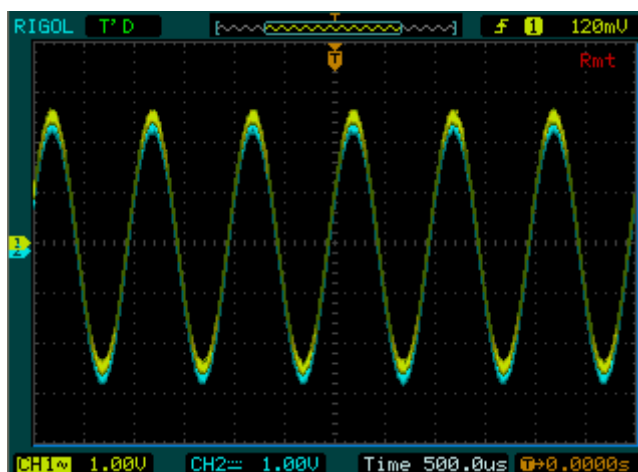
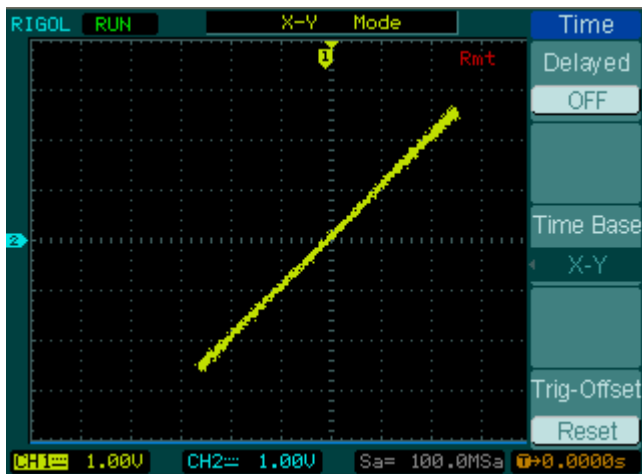

Figure 3-14
Figure 3-15
3. Press **Aligpha** in the above figure, adjust the Oscilloscope, using the Y-T and X-Y (Lissajous Figure) modes to view the waveform output. See Figure 3-14 and Figure 3-15.